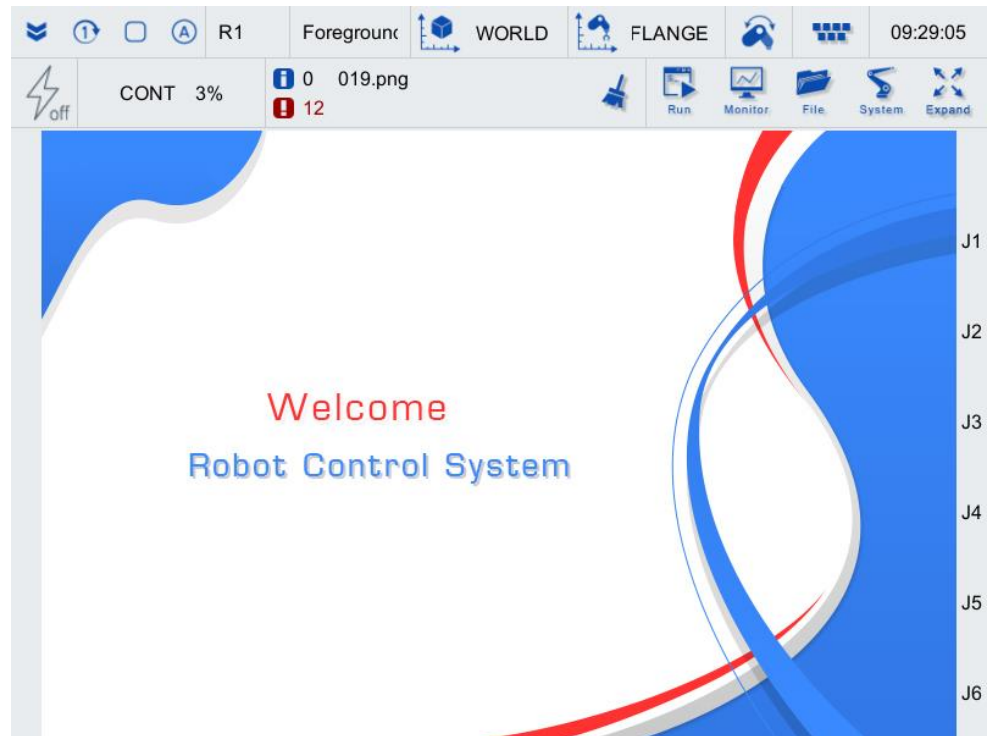

Figure 5-6 Teach pendant main interface
Step1. Log in to the teach pendant and you will see the main interface of the teach pendant as shown in Figure 5-6.